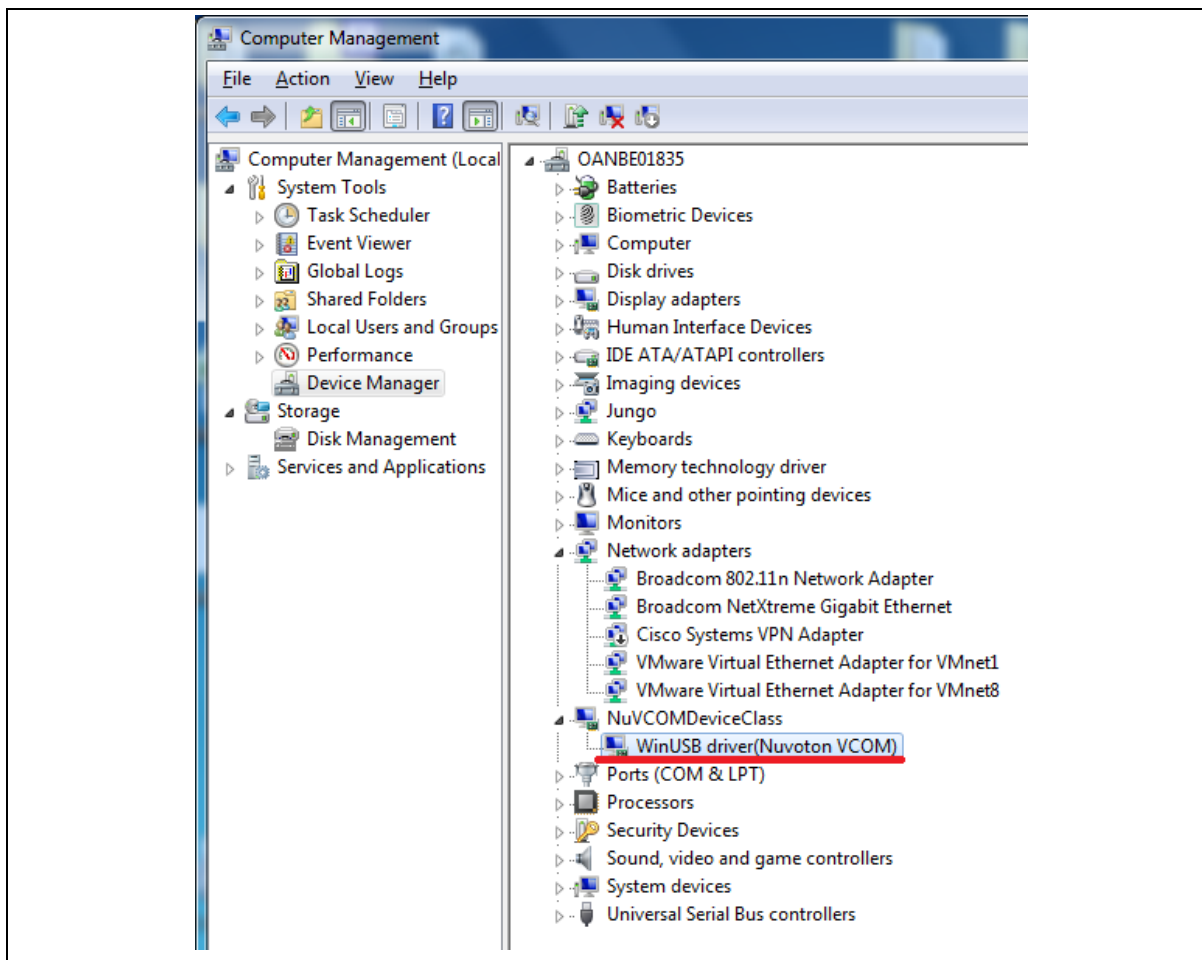

Figure 4-11 Device Manger(2)
4. Find the “WinUSB driver (Nuvoton VCOM)” on the Device Manager as Figure 4-11.